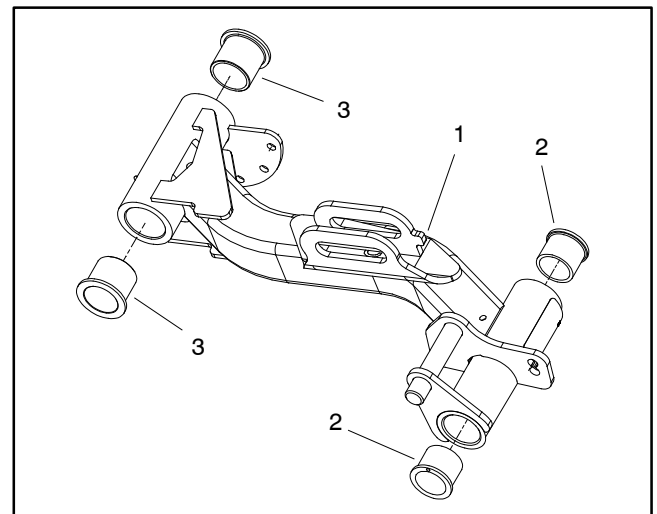

Figure 26
6. Remove tension from both torsion springs (items 14 and 15) on rear of lift arm pivot shaft.
A. Note on which shoulder stud (item 7) the torsion spring end is attached for assembly purposes.
C. Push down and rearward on the spring end to unhook the spring from the shouldered stud (item 7).
7. Remove two (2) flange head screws (item 6) that secure housing (item 1) to machine. Remove housing, torsion springs (items 14 and 15) and two (2) washers (item 5).
8. Remove washer head screw (item 10) that secures pivot shaft (item 9) to frame.
11. Inspect bushings in lift arm and pivot yoke for wear or damage. If necessary, replace bushings (Figs. 26 and 27).